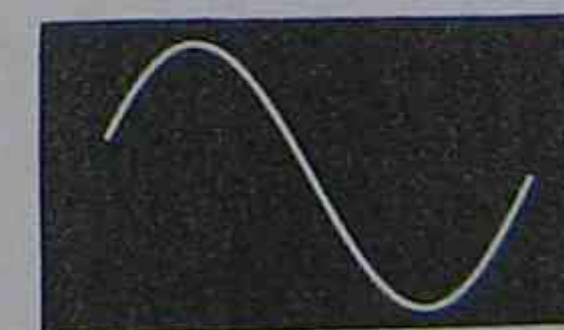

FIG. 12. SINE WAVE C.R.T. PATTERN.
5.2 A more useful display is obtained by causing the beam to move at a constant rate across the screen, from left to right, at the same time as the voltage variations to be examined are applied to the vertical plates. By this means, the horizontal position of the spot depends on the time which has elapsed since it started moving from the left side of the screen and the vertical position of the spot depends on the instantaneous voltage of the waveshape being examined. The combination of forces on the beam causes it to trace out a pattern which shows the voltage variations related to time. Fig. 12 shows a typical pattern produced by a sine wave a.c. signal applied to the vertical plates of a C.R.T. while a suitable signal is applied to the horizontal plates to produce a steady movement (or sweep) across the screen. The signal applied to the horizontal plates is usually called the horizontal sweep signal.